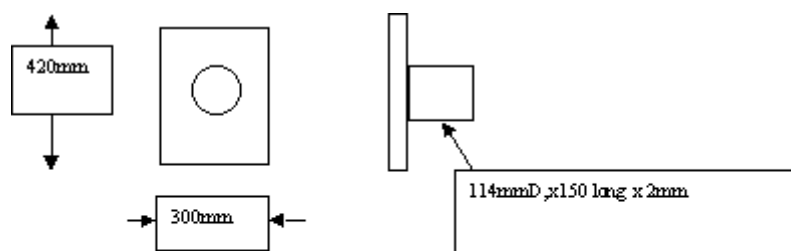

Figure 4 Chimney Spigot
Two rectangular frames of 4x2x1/4in. (100x40x5) rolled steel channel are then joined together and cemented on to the bricks surrounding the top of the combustion chamber, and the bricks surrounding the flue as shown in Figure 2 below. The space within these two frames is filled with soft sand, so that the loading door (Figure 3) and the chimney spigot (Figure 4) can be closed with an air-tight seal.
5. The chimney spigot. This is made from 30x30x3 rsa with a 5mm sheet of mild steel attached, as in Figure 4 below.
Fuel Tank. If it is intended to use liquid fuel, (either kerosene or diesel oil) a fuel tank of at least two litres capacity should be mounted 1 metre above the top of the incinerator, and at least one metre to the side of the incinerator. A fuel tap should be fitted to the tank, and a fuel pipe fitted to take the fuel to a steel pipe of about 5 mm diameter which is passed through the brick or the mortar 100 mm below the top and just protruding into the primary combustion chamber as shown in figure 4.